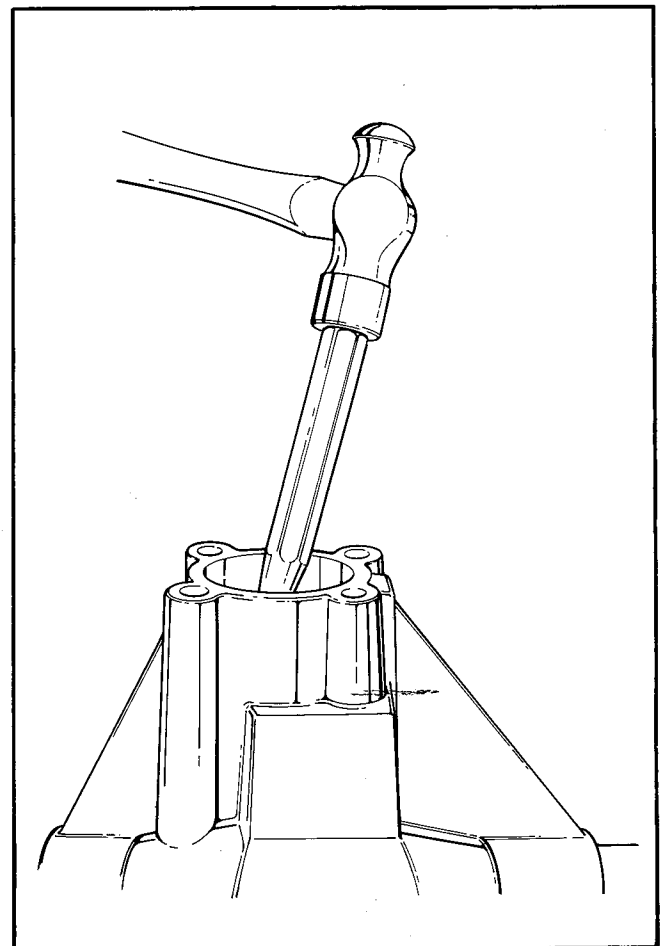

Figure 28 – Removing Rear Pinion Bearing Cup
- t. Rear bearing cup (27) can be driven out with drift, Figure 28. Shims (29) are located between bearing cup (27) and carrier bore. Retain these shims for reassembly. Shims (29) are used to set pinion depth.